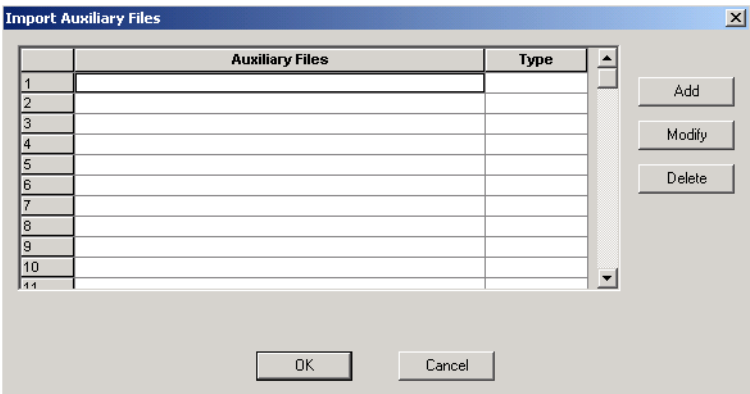

Figure 7-8. Importing a PDC File Dialog Box
1. **From the File menu, click *Import Auxiliary Files*.** The Import Auxiliary Files dialog appears, as shown in Figure 7-8.